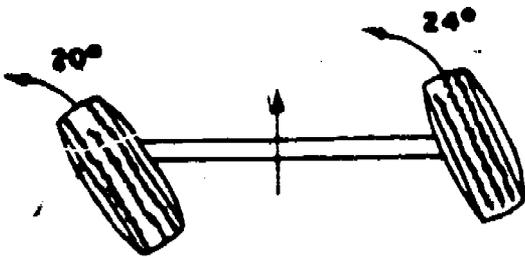

Figure 3
- 28. Figure 3 shows _____ steering geometry.